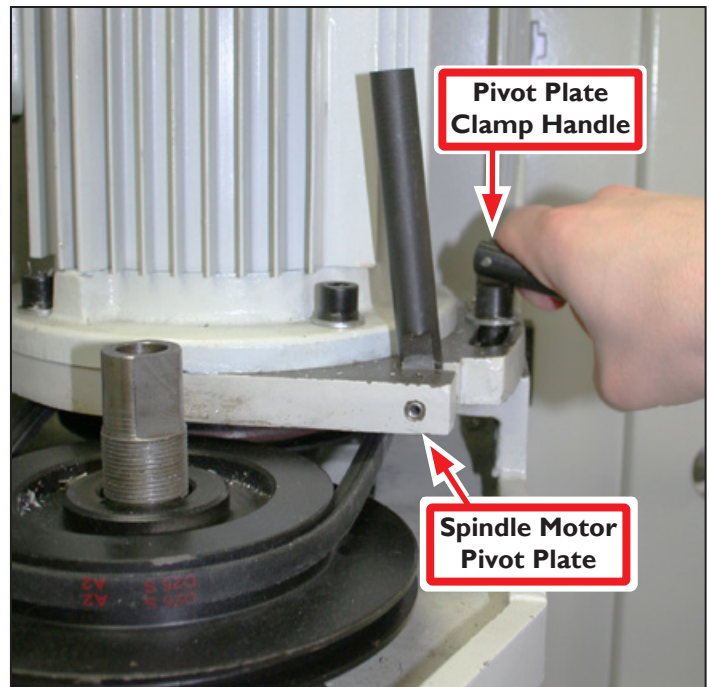

Figure 2
3. Unlock the Spindle Motor Pivot Plate with the Pivot Plate Clamp Handle (see **Figure 2**).